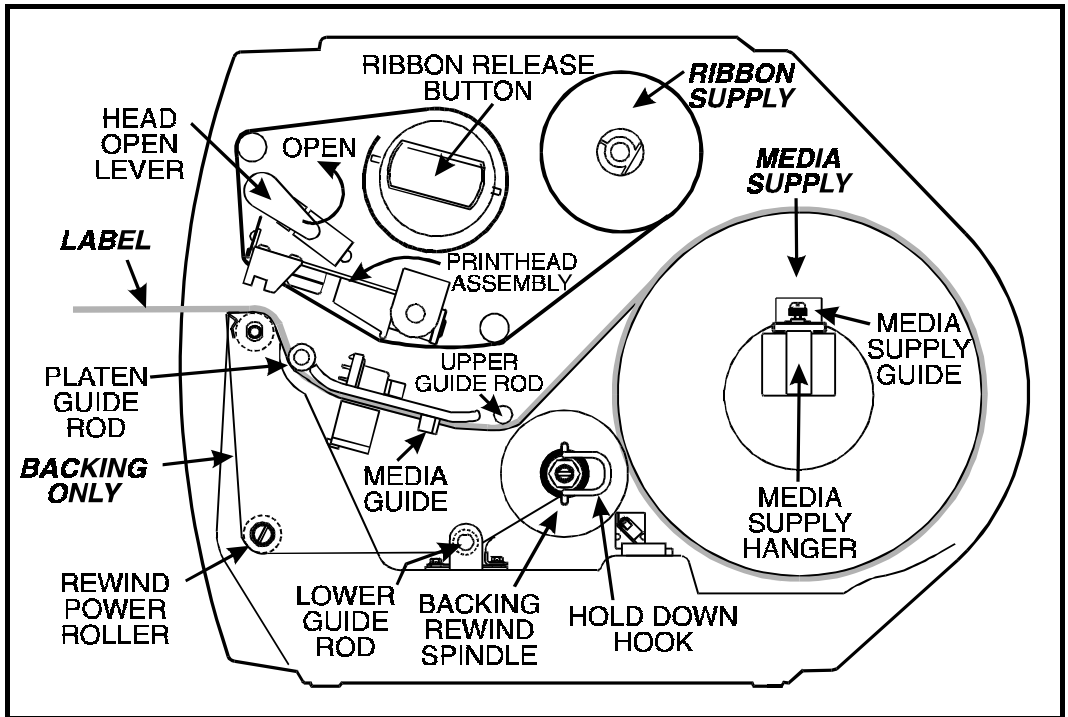

Figure 6 Peel-Off Mode Media Loading
Figure 6 illustrates an S-500 printer with the Peel-Off Option.
To insure proper media loading, see Figure 6 and follow the procedure below.
4. Thread the media through the printhead as shown in Figure 6.